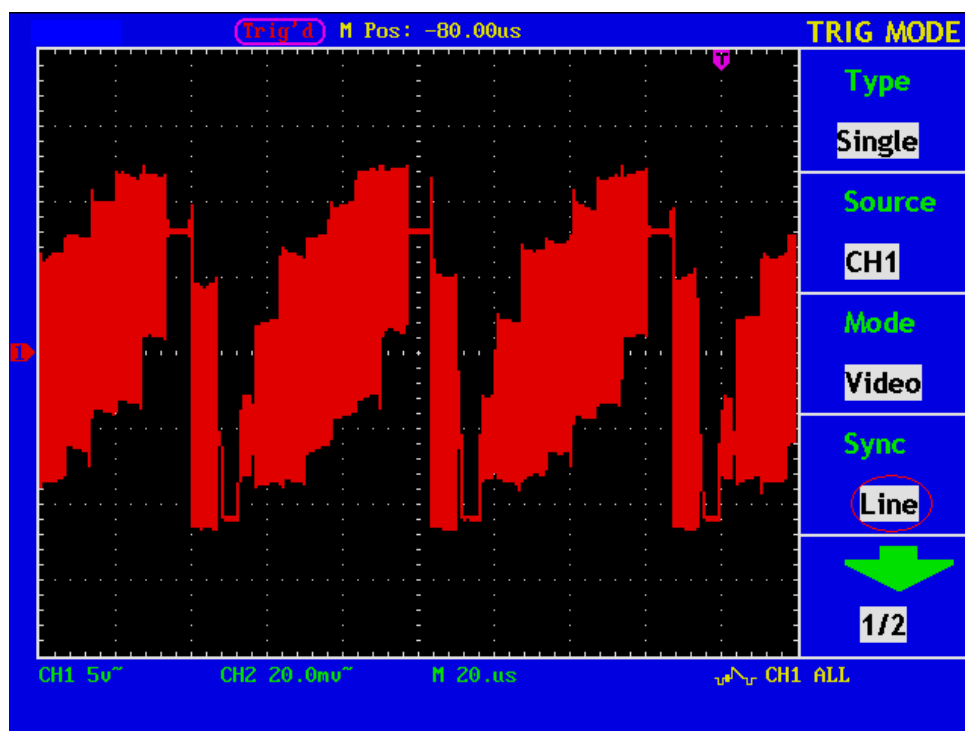

Fig. 37 Video field trigger Oscillogram(the first menu)
5. Press F4 to choose synchronization as "Line" (refer to Fig.37)